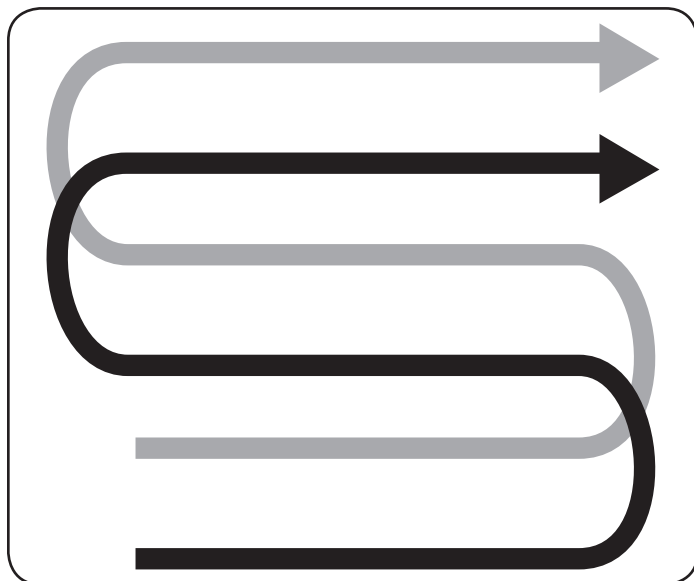

Figure 18
- When preparing a seedbed, go over the same path twice in the first row, then overlap one-half the tiller width on the rest of the passes. See Figure 18.